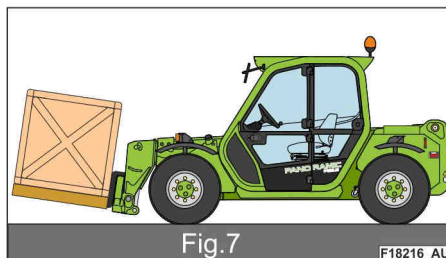

Fig.7
- rotate the carriage a few degrees upwards and completely retract the telescopic boom (Fig.7)
- lamp panel (figure 7)